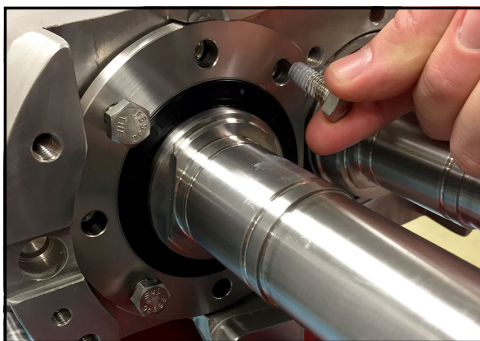

Figure 211 - Install screws
13. Apply anti-seize to the screws and install them in the bearing retainer as shown in Figure 211. Lightly snug down the screws by hand.